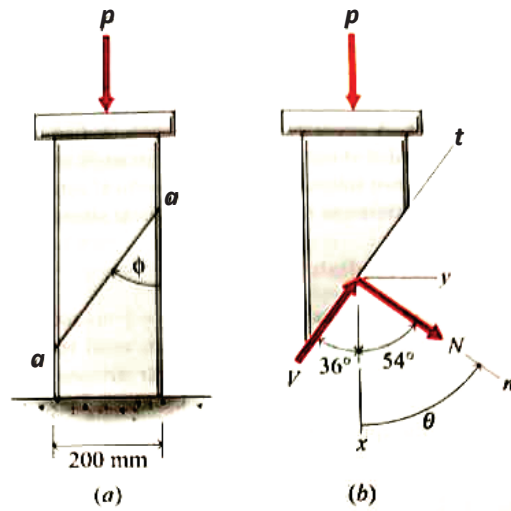

Figure 1 / Rajah 1
- (3). (a). The block shown in Figure 1 has a 200 x 100-mm rectangular cross section. The normal stress on plane a-a is 12 MPa (Compression) when the load P is applied. If angle ϕ is 36° , determine